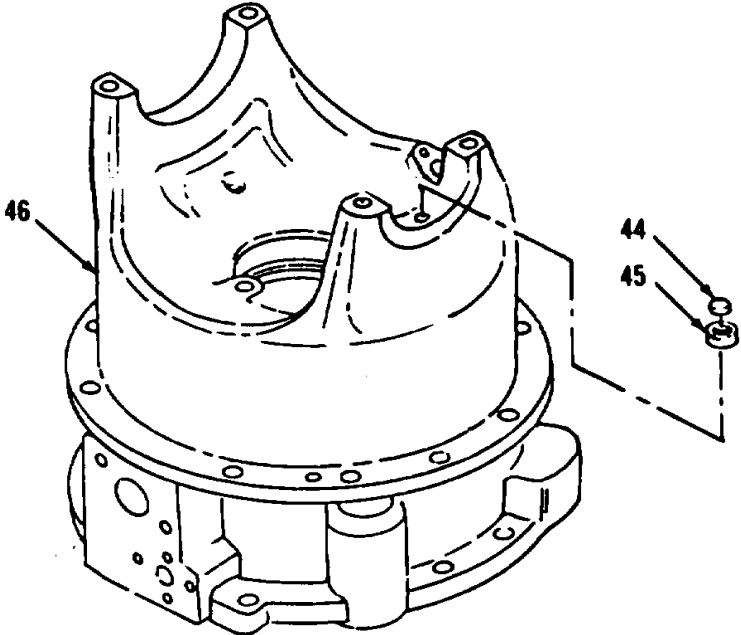

Figure 14-134.
- 22. Remove seal (44) and ring (45) from differential carrier (46, Figure 14-134).
- 1. Install ring (45) and new seal (44) in differential carrier (46, Figure 14-134).